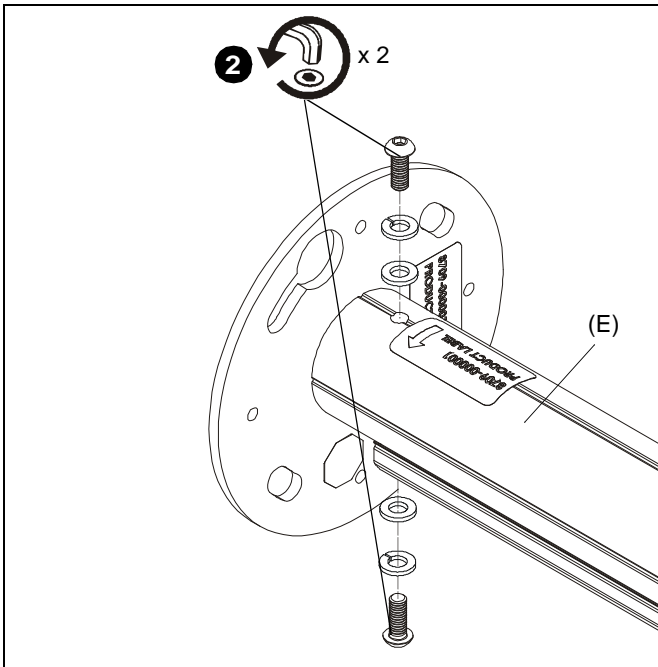

Figure 2
2. Remove two button head cap screws, two lock washers and two flat washers holding column of KITE Series mount (E) to adapter plate. (See Figure 2)